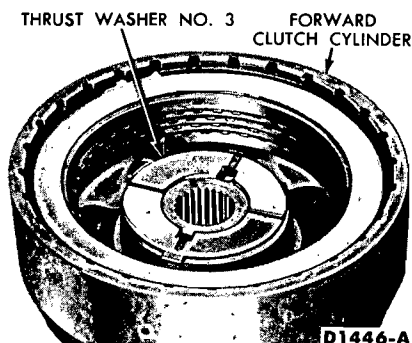

FIG. 111—Number 3 Thrust Washer Location
24. Install thrust washer No. 3 on the forward clutch (Fig. 111).